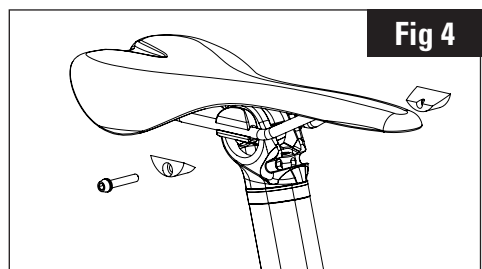

Fig 4
4. Put both lower brackets (11) in place and tighten the previously greased set screw to the specified torque of 8Nm once your seat is properly positioned. (Fig.4)